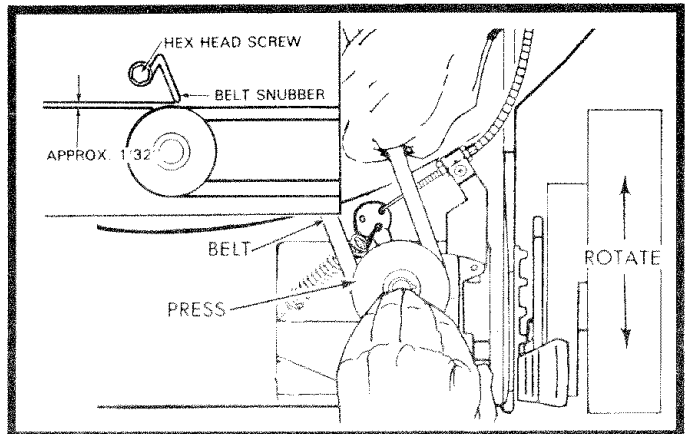

FIG. 14
- Remove drive cover. Remove belt by pushing down on gear case pulley (See Fig. 14).
- Loosen hex head screw and move belt snubber away from pulley (See Fig. 14).